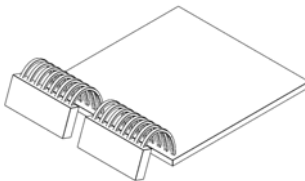
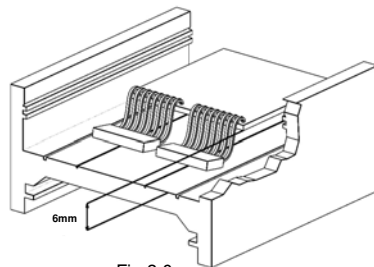

Fig 2.0
Fig 3.0
- ❑ Next, bend the IC's as shown in fig. 2.0 and then as in fig. 3.0. Watch the distance between the lower surfaces of the PCB and the IC.